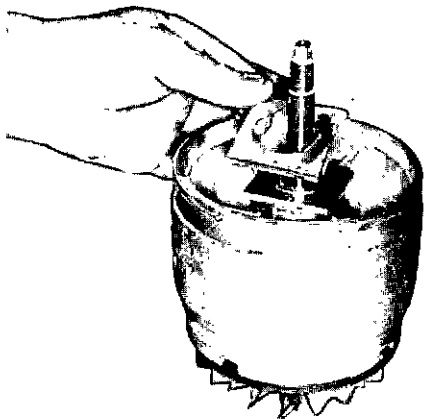

Fig. 3-5, (VTST30). Removing the turbocharger bearing insert
8. Remove the turbocharger bearing insert and the turbocharger bearing from the rotor shaft, Fig. 3-5. Remove the O-ring from the bearing housing. Discard the O-ring and turbocharger bearing insert.